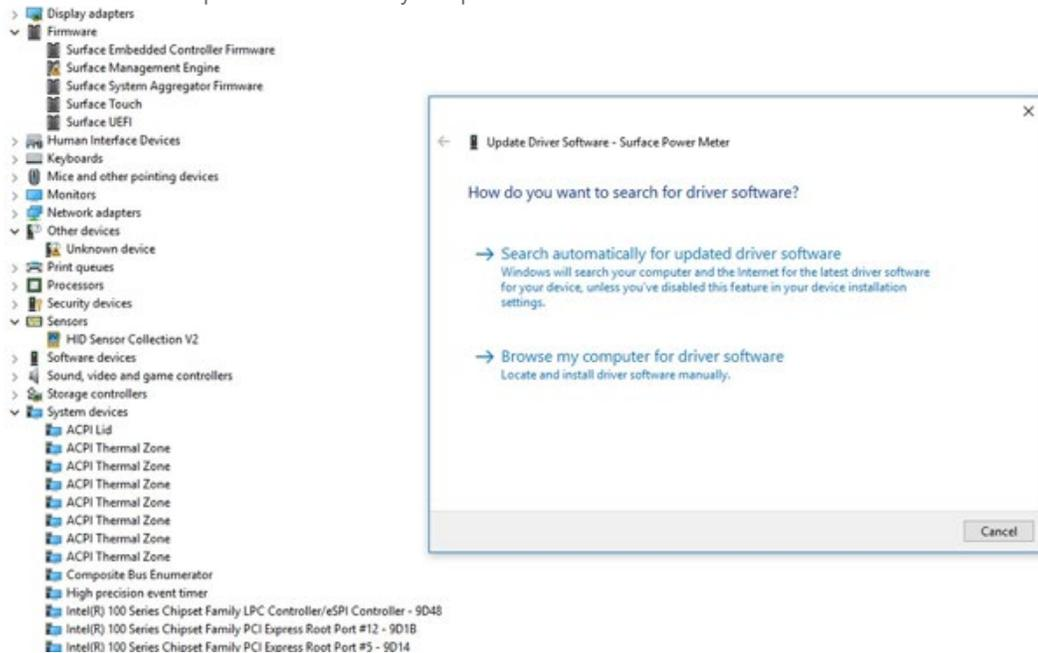

Figure 6. Update driver software window.
- b. The Update Driver Software window pops up. As shown in Figure 6, there are two options available to help the user locate the Maxim driver on the system: